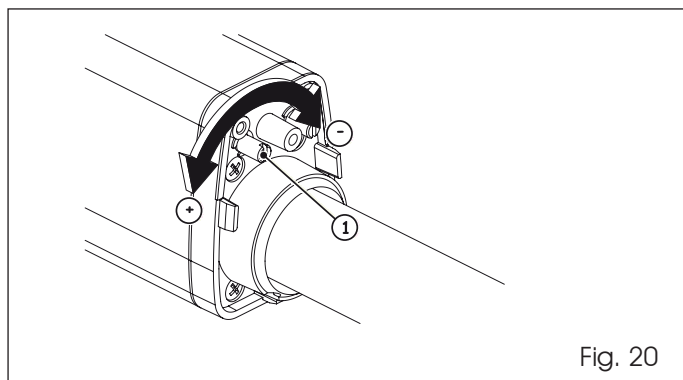

Fig. 20
3. To adjust the opening limit switch FCA, turn the adjusting screw counter-clockwise (Fig. 20 Ref. 1) to increase rod stroke and clockwise to reduce it.